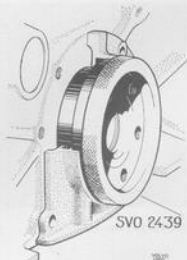

Fig. 2-46. Centering rear sealing flange
3. Center the flange with sleeve 2439, Fig. 2-46. Turn the sleeve round while tightening the bolts and adjust the position of the flange if the sleeve jams. Check that the flange comes flush against the underside of the block.